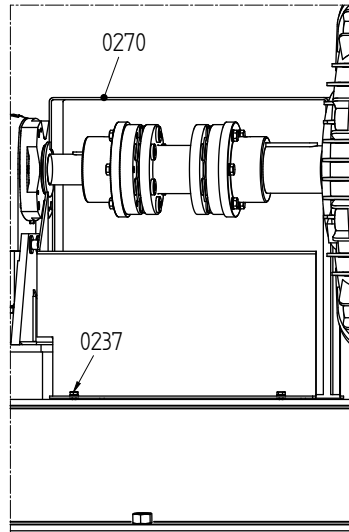

Figure 9: Fitting the guard.
- 1 Loosen bolts (0237) and remove these. See figure 9.